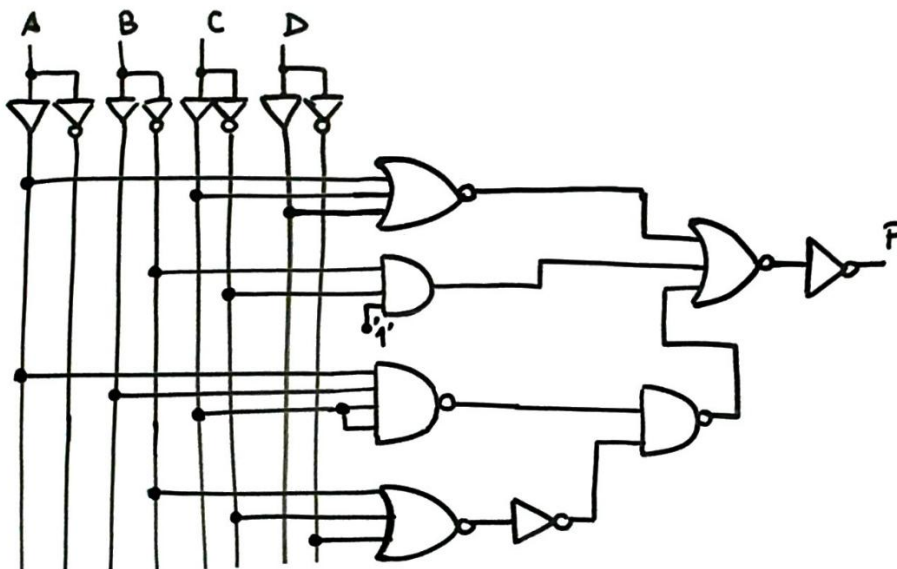

Fig. 3.
1. Apply the analysis **method I** to find the truth table of the circuit in Fig. 3. Explain specifications and planning concepts before developing the solution.
3. Explain and plan how to design a new version of the circuit in Fig. 3 using **plan B** as the strategy to capture the truth table.